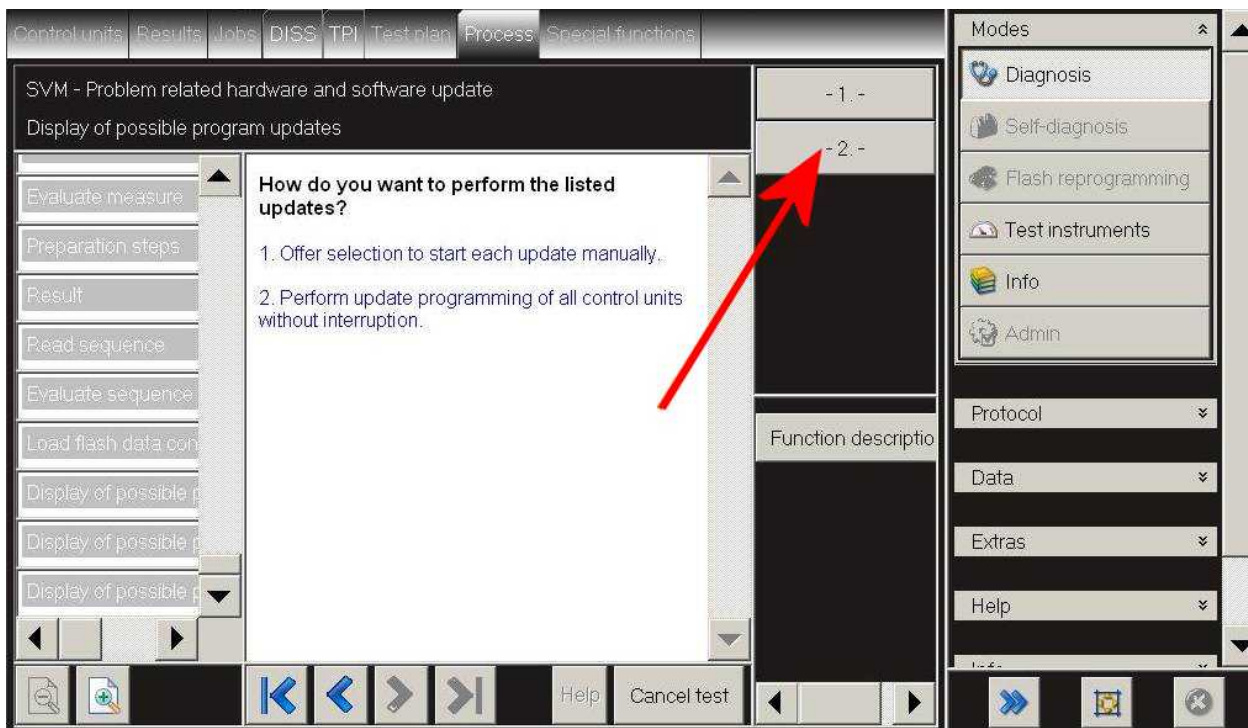

Figure 7
9. Once at Figure 7, select – 2. Perform update programming of all control units without interruption, and follow all on screen prompts until the Engine control module and Automatic transmission control module was successful